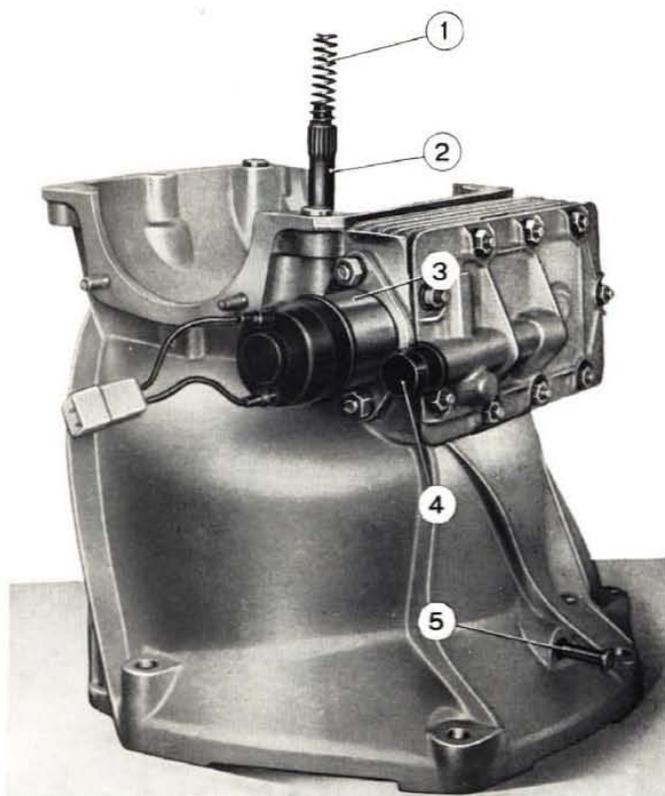

Fig. 592 - Refitting guarantee seal pin.
- close cover oil inlet by means of plug (4, fig. 592).
- place service tool **A. 70147** (1, fig. 590) on spring (1, fig. 592) so that the latter does not damage the converter support seal and the pump seal during the subsequent operation;
- insert pin (5, fig. 592);
- close oil inlet on cover by means of plug (4, fig. 592) and clean transmission outer surfaces;
- remove guarantee seal plug and pin (1, fig. 592);
Close oil inlet on cover by means of plug (4, fig. 592) and place the Idroconvert transmission on the bench with the converter output shaft facing upwards.